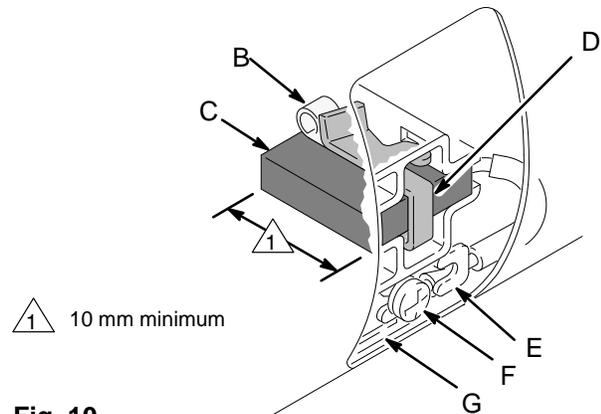
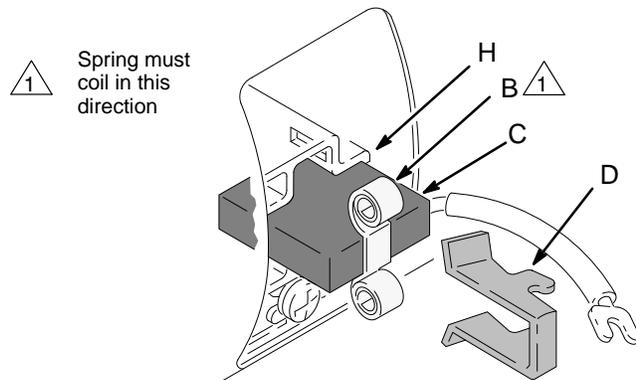

Fig. 10 01227
Fig. 11
NOTE: Replace the brushes when they have worn to less than 10 mm. See Fig. 10. Always replace both brushes at the same time. A Brush Repair Kit, p/n 222-157, and spring clip, p/n 110-816, are available.
3. Loosen the terminal screw (F). Pull the brush lead (E) away, leaving the motor lead (G) in place. Remove the brush (C) and spring (B). See Fig. 10.
5. Install the new brush (C) so its lead is in the long slot (H) of the holder. See Fig. 11. Slide the terminal (E) under the terminal screw washer. Make sure the motor lead (G) is still connected at the screw. Tighten the screw (F). See Fig. 10.
6. Place the spring (B) on the brush as shown in Fig. 11. The spring must coil as shown.
7. Push in and hook the spring clip (D). See Fig. 11.